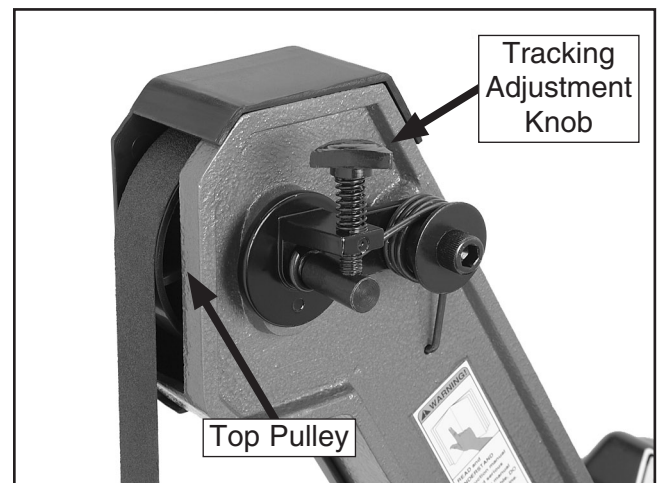

Figure 31. Sanding belt tracking adjustment.
2. Observe the sanding belt as it moves over the top pulley (see **Figure 31**).